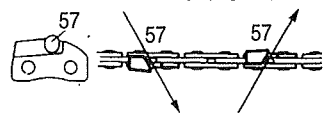

Fig. 46
File (57) cutter on one side of the chain from the inside out. File on forward stroke only. (Fig. 46)